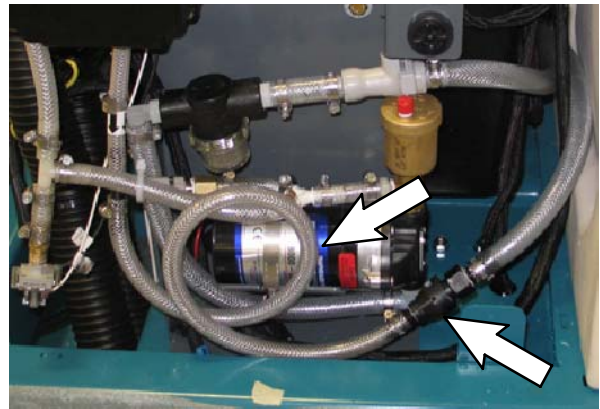

FIG. 22
33. Connect hose from the scrub head (DISP) to the *ec-H2O* assembly outlet hose. Refer to Fig. 22.
NOTE: Be sure the outlet hose from ec-H2O assembly is looped as shown in Fig. 22.